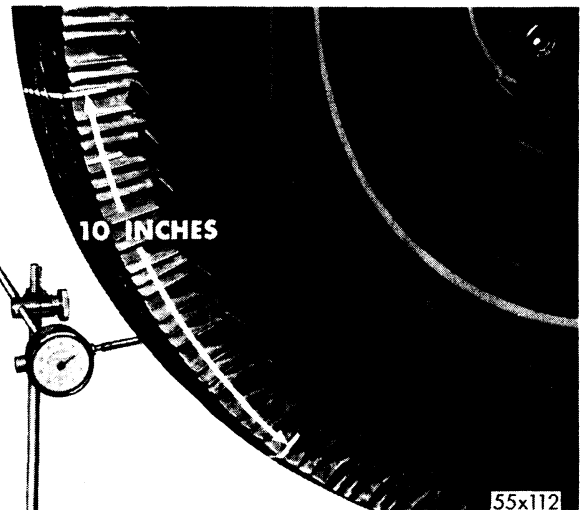

Fig. 24—Replace Tire if Runout Exceeds .050 Inch within 10-Inch Travel of Tread
- (5) A tire with runout in excess of .050 inch within a 10 inch travel of the tread should be replaced (Fig. 24). However, a total runout of .080 inch (Fig. 25) can occur without tire performance and tire life being affected.